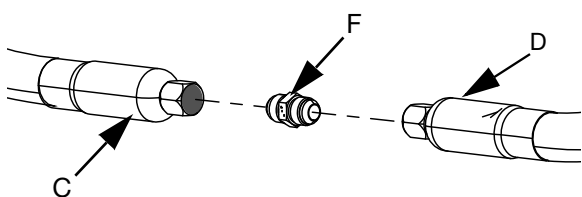

FIG. 21
6. If you are using two supply hoses (C and D), use the Supply Hose 1 to Supply Hose 2 Fitting (F) to connect Supply Hose 1 (C) to Supply Hose 2 (D). See FIG. 21.